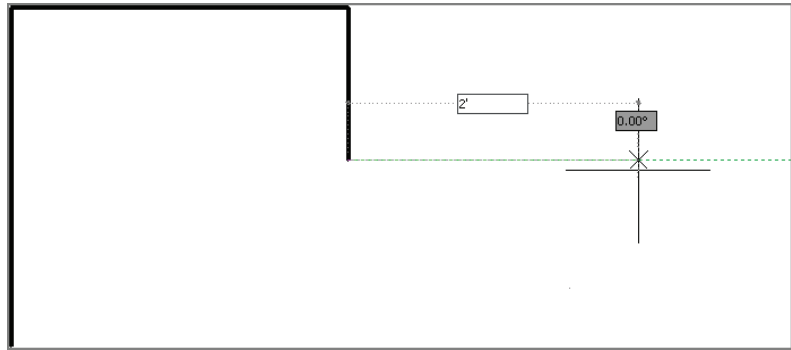

FIGURE 3.6 Drawing another line with Ortho mode and direct distance entry
6. Move the cursor around, and observe that green dashed lines appear in eight locations around a circle (in 45° increments). Move the cursor to the right relative to the last point, type **2'** (or **600** in metric), and press Enter (see Figure 3.6). Press Esc to terminate the LINE command without deleting the last segment drawn.